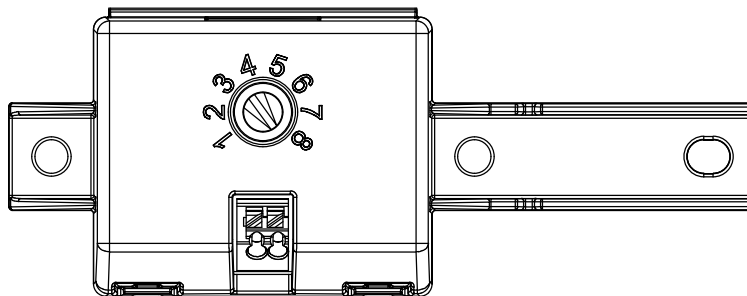

FIGURE 7
- ESTABLISH THE DESIRED POWER OR LUMEN SETTING BY TURNING THE SWITCH TO THE POSITION DEFINED BY THE POWER LEVEL INCLUDED WITH THE DESIGN PACKAGE. REFER TO THE MANUFACTURER SPECIFICATIONS AND THE FIELD ADJUSTABLE SETTINGS TABLES INCLUDED WITHIN THIS STANDARD FOR EACH FIXTURE. SEE FIGURE 7 FOR ADJUSTMENT SWITCH DETAILS .